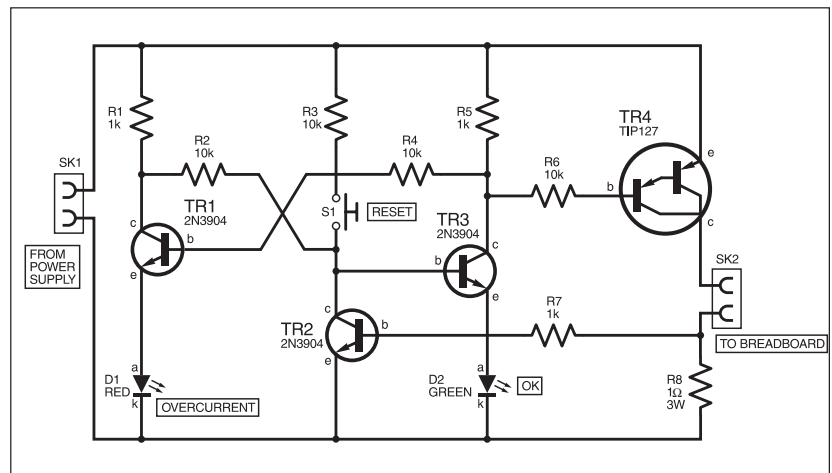

Fig.1. Circuit diagram for the Breadboard Project Protector
**T**HE Breadboard Project Protector circuit diagram shown in Fig.1, is a simple cutout device that should be particularly useful for the experimenter who regularly builds circuits on breadboards but who does not have the luxury of a power supply with built-in current limiting. The device is used as an add-on and wired between a “home-made” power supply, i.e. a simple transformer-rectifier-smoothing capacitor arrangement, and the breadboard.